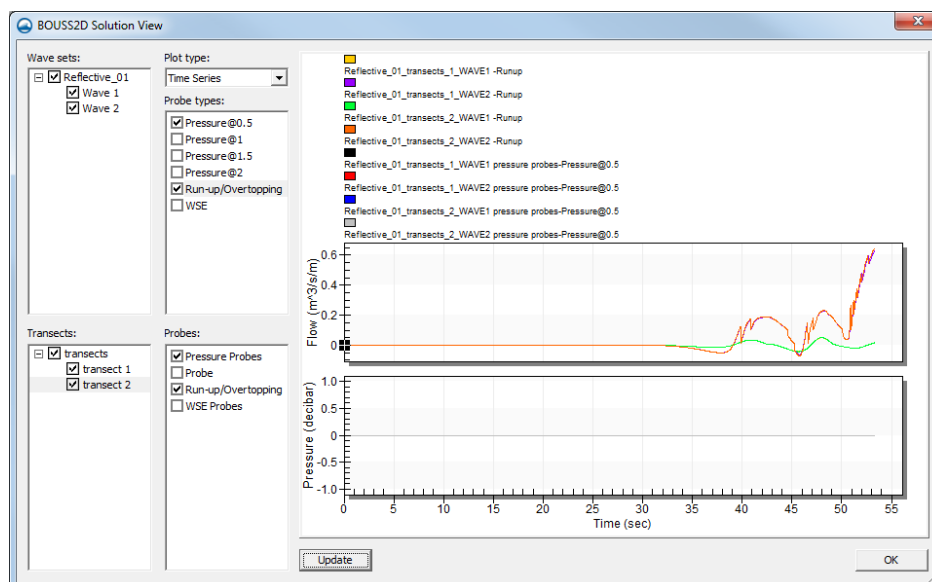

Figure 15 Time Series plots with two probes selected
5. Click the **Update** button. Figure 15 shows how these plots appear.